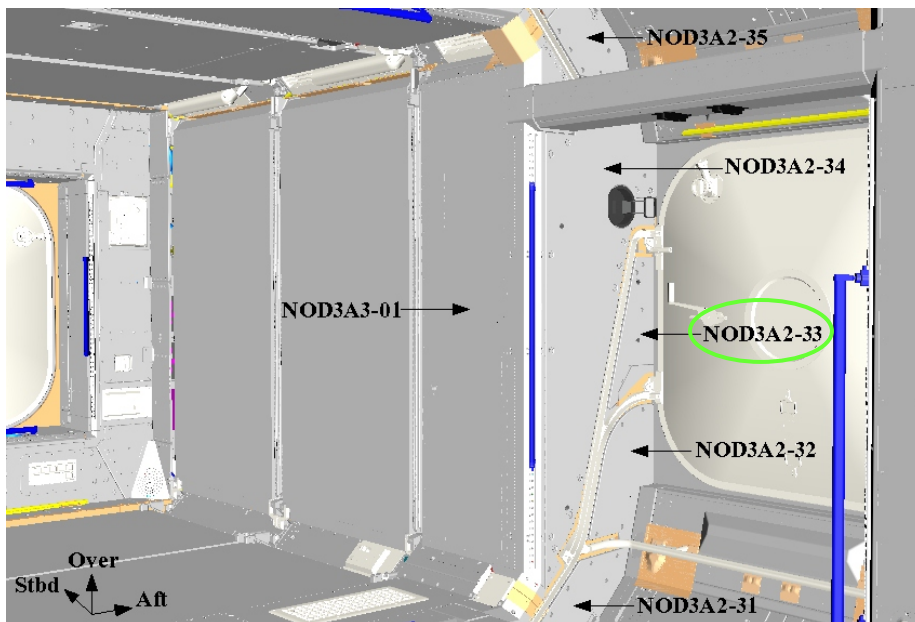

Figure 1. - Node 3 Aft Stbd Closeout Panels.
Refer to Figure 1 for connection point.
- 1.1 Remove Closeout Panel, NOD3A2-33, Fasteners (three) (Driver Handle, 1/4" Drive; 5/32" Hex Head, 1/4" Drive). Refer to Figure 1.